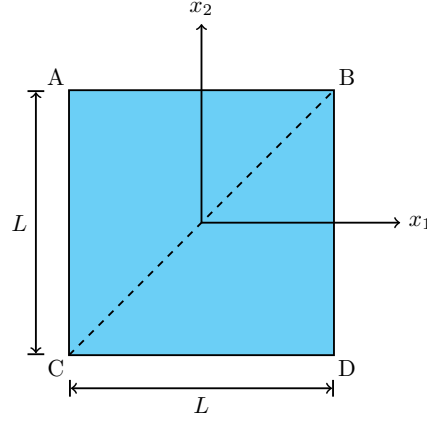

Figure 4: Inhomogeneous strain field
3. Consider a two-dimensional (2D) square infinitesimal element in the $x_1 - x_2$ plane as shown in Fig. 4. The displacement field within the element is defined as,